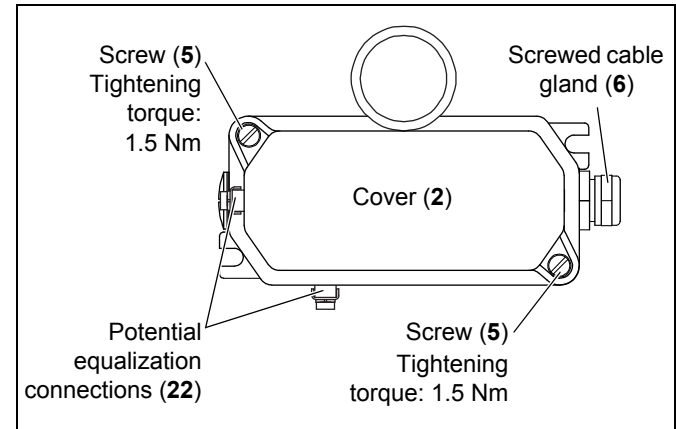

Fig. 5-12: Mounting the belt misalignment switch onto the conveyor
2. If necessary, open the cover (2) of the belt misalignment switch by loosening the two screws (5) (see fig. 5-12).
8. Close the cover (2) of the belt misalignment switch.
9. Secure the cover (2) with the screws (5) (see fig. 5-12).
10. Tighten the screws (5) **evenly** with a **tightening torque of 1.5 Nm**.